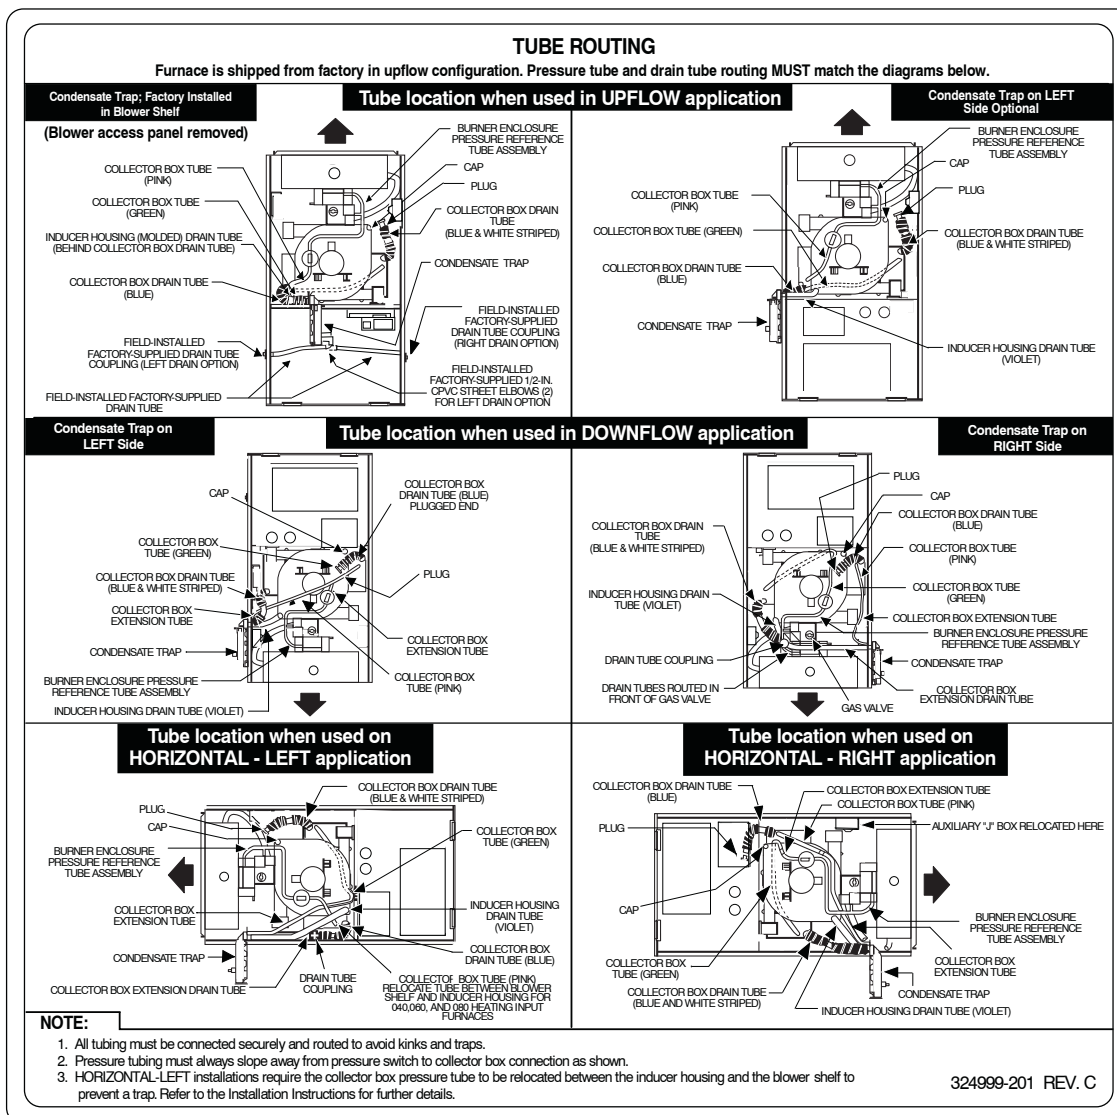

Fig. 10 - Furnace Pressure and Drain Tubing Diagram
14. Reconnect pressure switch tubes to gas valve and intake housing. Refer to tube routing label on main furnace door for proper tube location. (See Fig. 10.) Be sure tubes are not kinked.
6. Disconnect drain tube from inducer housing. (See Fig. 10.)
12. Reconnect pressure tubes to pressure switches. See diagram on main furnace door for proper location of tubes. Be sure tubes are not kinked. (See Fig. 10.)